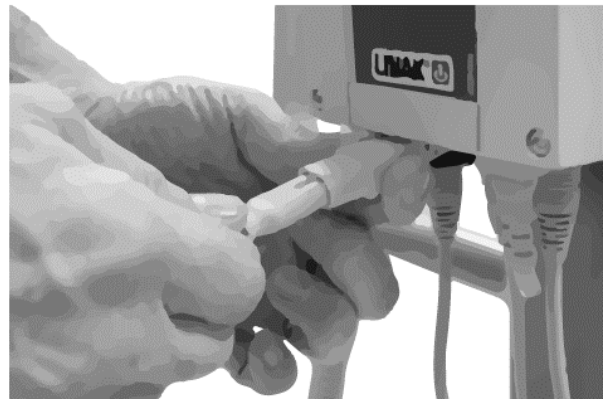

Figure 22
- A. Fit the mains lead figure of eight plug into charger link cable (see Fig. 22).